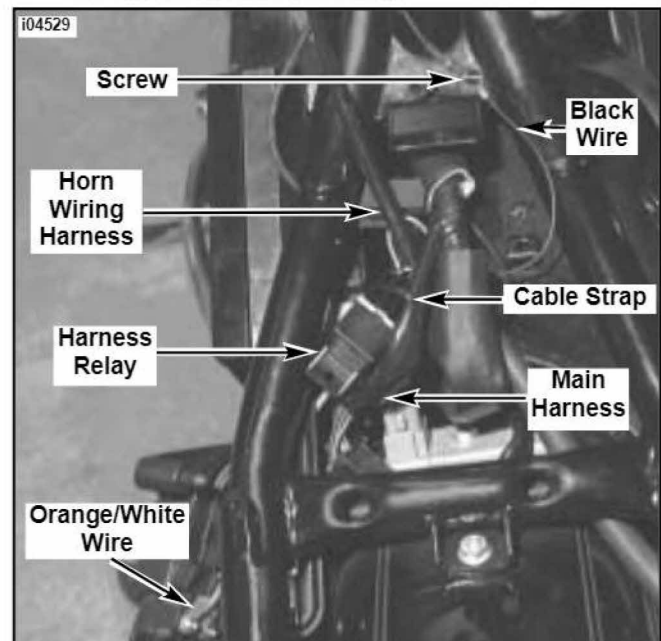

Figure 2. Route Harness Wiring
5. See Service Parts Illustration and Figure 2. Obtain Wiring Harness (12) from kit. Install orange/white wire ring terminal to silver post on circuit breaker and reinstall nut. Tighten securely. Reinstall plastic cover to protect posts.
6. See Figure 2. Begin routing new horn wiring harness upward between frame backbone and along left side of main harness toward front of bike.
8. If screw is not present, obtain Self-Tapping Screw (9) from kit. Use existing screw or screw from kit and install black wire ring terminal to small hole in upper frame crossmember. Tighten securely.